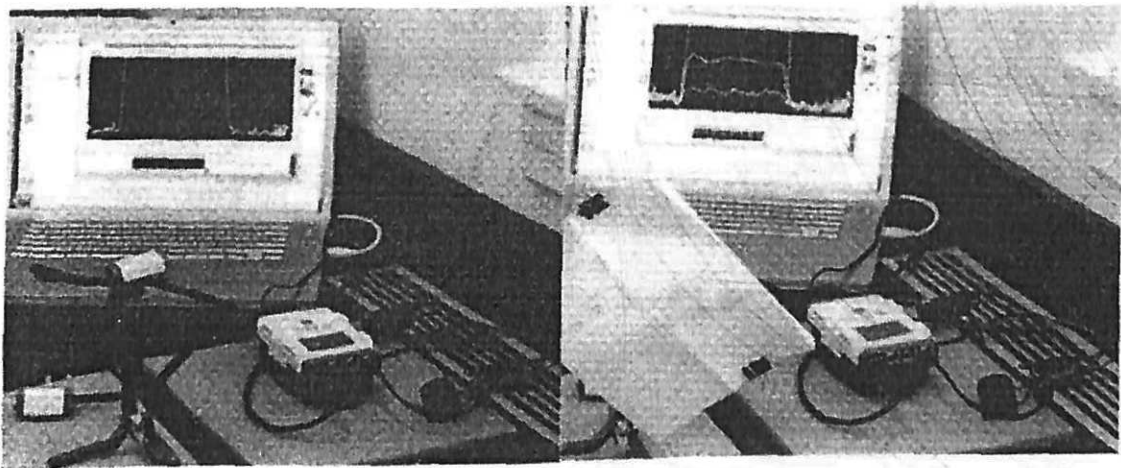

Figure 5.1.3: The Piezo buzzer is used as the sound source here.
4. Figure 5.1.3 shows an experimental design utilizing the 9V DC Piezo buzzer. You can see in the computer screen that the NXT sound sensor's threshold is reached (left) but when paper "ear" protection is put on the sound levels are reduced considerably. The